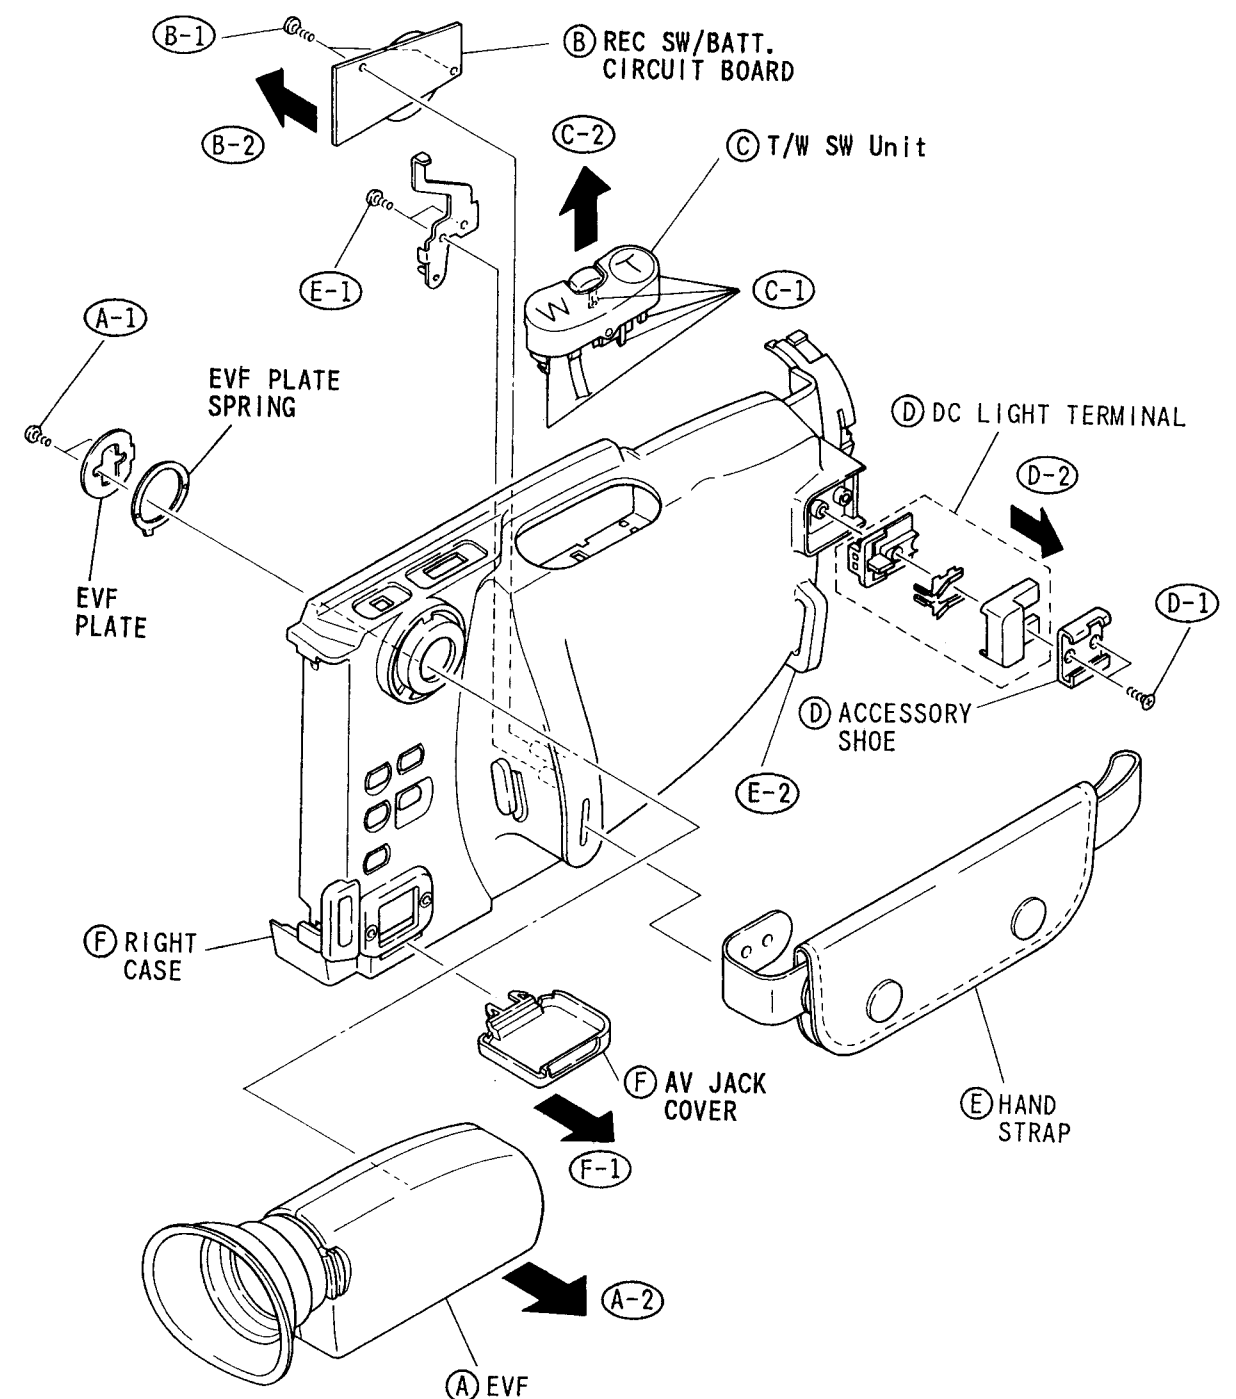

Fig. 3-3
A. Electronic Viewfinder (EVF) Block (Fig. 3-3)
- 1) Remove two (2) screws.
B. REC SW/Batt. Removal (Fig. 3-3)
C. T/W SW Unit (Fig. 3-3)
- 1) Release five (5) tabs.
D. Accessory Shoe and DC Light Terminal (Fig. 3-3)
E. Hand Strap (Fig. 3-3)
F. AV Jack Cover and Right Case (Fig. 3-3)